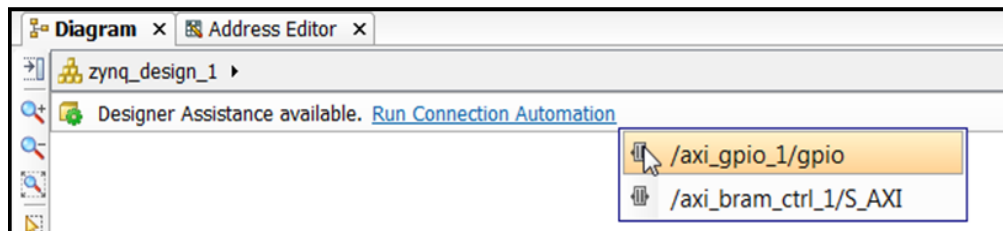

Figure 17: axi_gpio Selection
2. Select **Run Connection Automation** again, and the /axi_gpio_1/gpio shown in FIGURE 17.